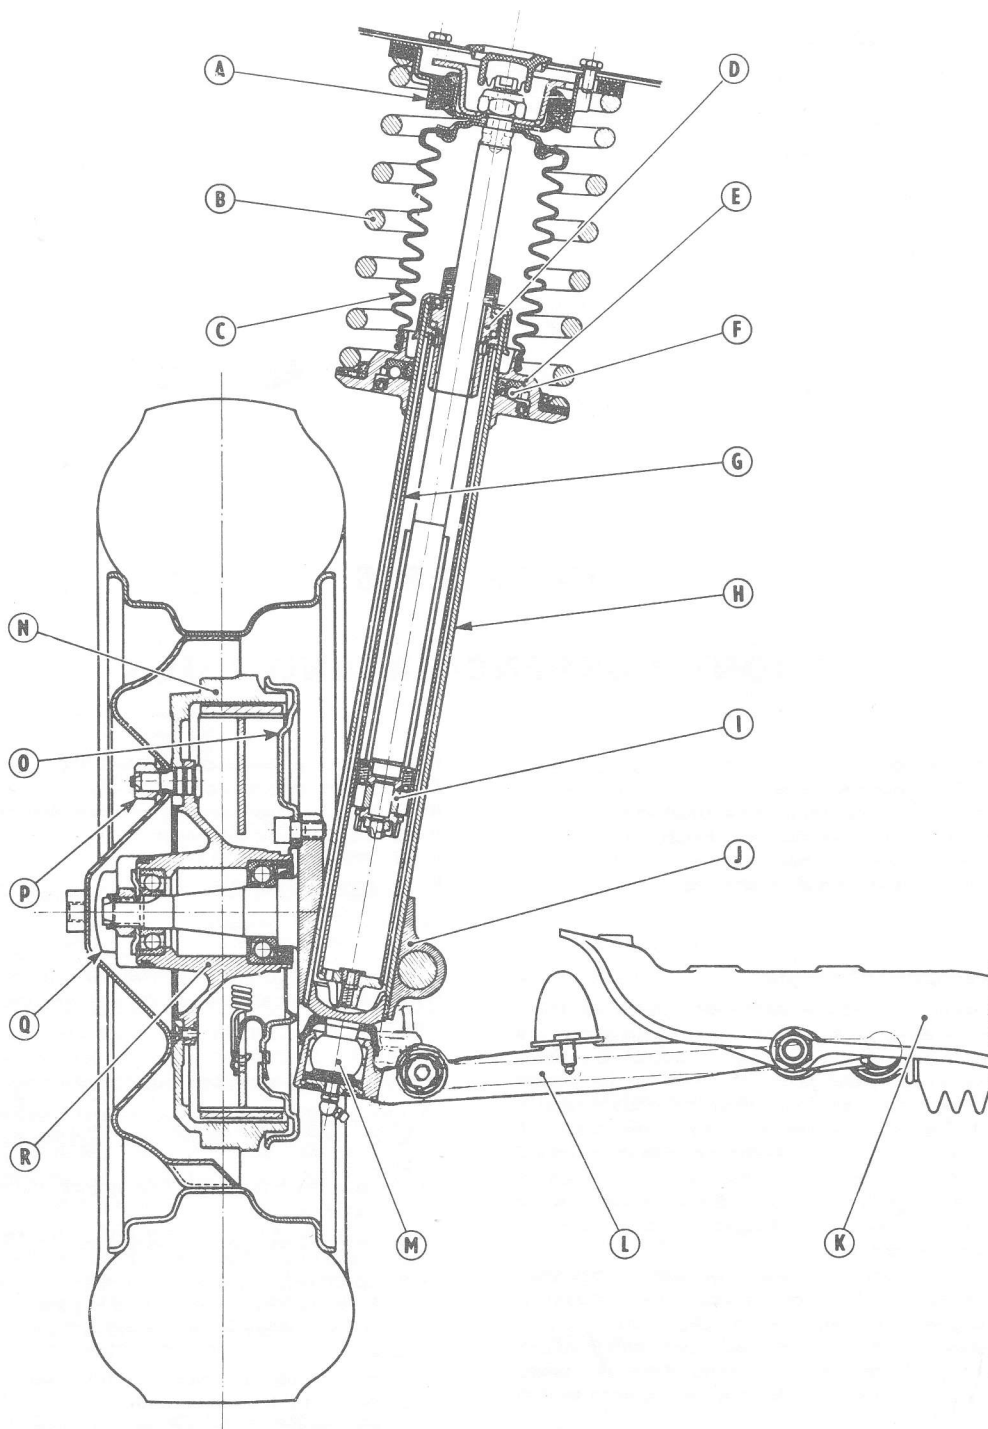

FIG 8:1 Sectioned view through the front suspension
- 3 Remove the flat D washer and withdraw the inner cone and race of the outer hub bearing (see **FIG 8:2**).
Key to Fig 8:1 A Shock absorber upper mount B Coil spring C Rubber bellows D Shock absorber cover nut E Coil spring lower seat F Ballbearing G Shock absorber body H Shock absorber housing I Piston J Spindle assembly K Front crossmember L Lower arms assembly M Lower arms ball joint N Brake drum O Brake backing plate P Wheel lug nut (45 lb ft) Q Wheel bearing grease cap R Hub